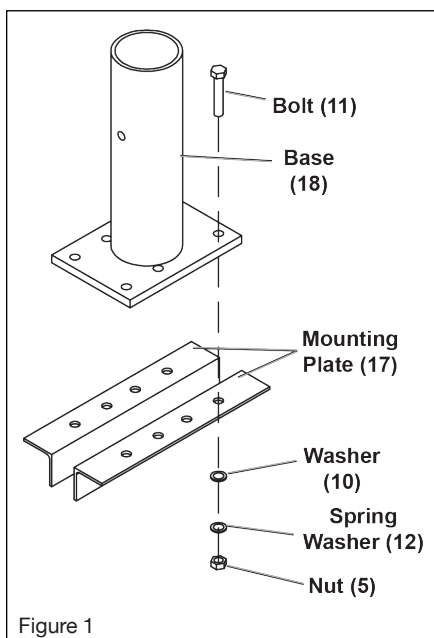

Figure 1
3. Mount Base to frame using Nuts (5), Spring Washers (12), Washers (10), Mounting Plates (17) and Bolts (11). **Figure 1**